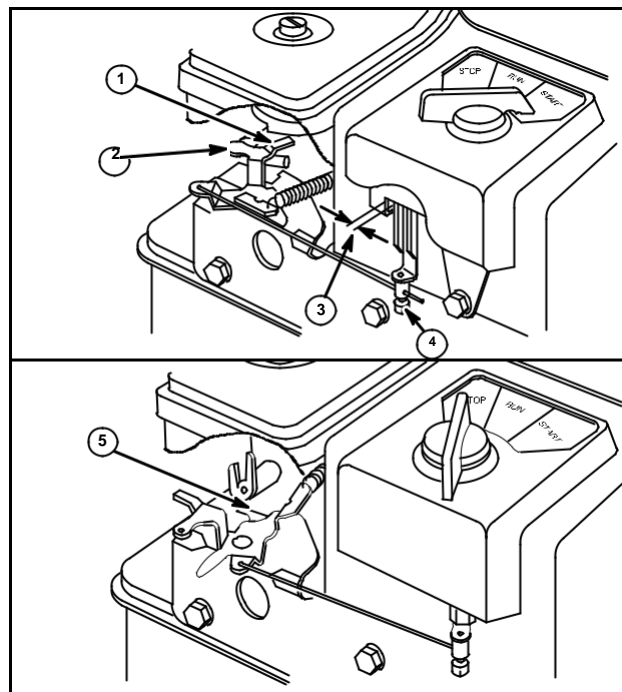

Fig. 13
2. Loosen control wire screw (4) – move lever (2) to full choke position (1). Allow a 1/8" (3.18 mm) gap between lever and bracket as shown (3), Fig. 13.
3. While holding lever, tighten screw (4). Stop switch (5).